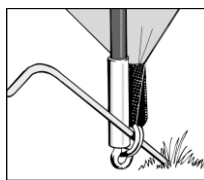

Figure 2.
2. Peg the corners of the tent through the metal rings using pin-pegs. It is important to drive the peg into the ground at a 45 degree angle to obtain the best grip. (See Figure 2).